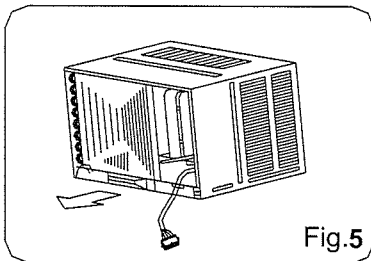

Fig.5
- Grasp the handle on the chassis and carefully slide the air conditioner out of the cabinet (See Fig.5).